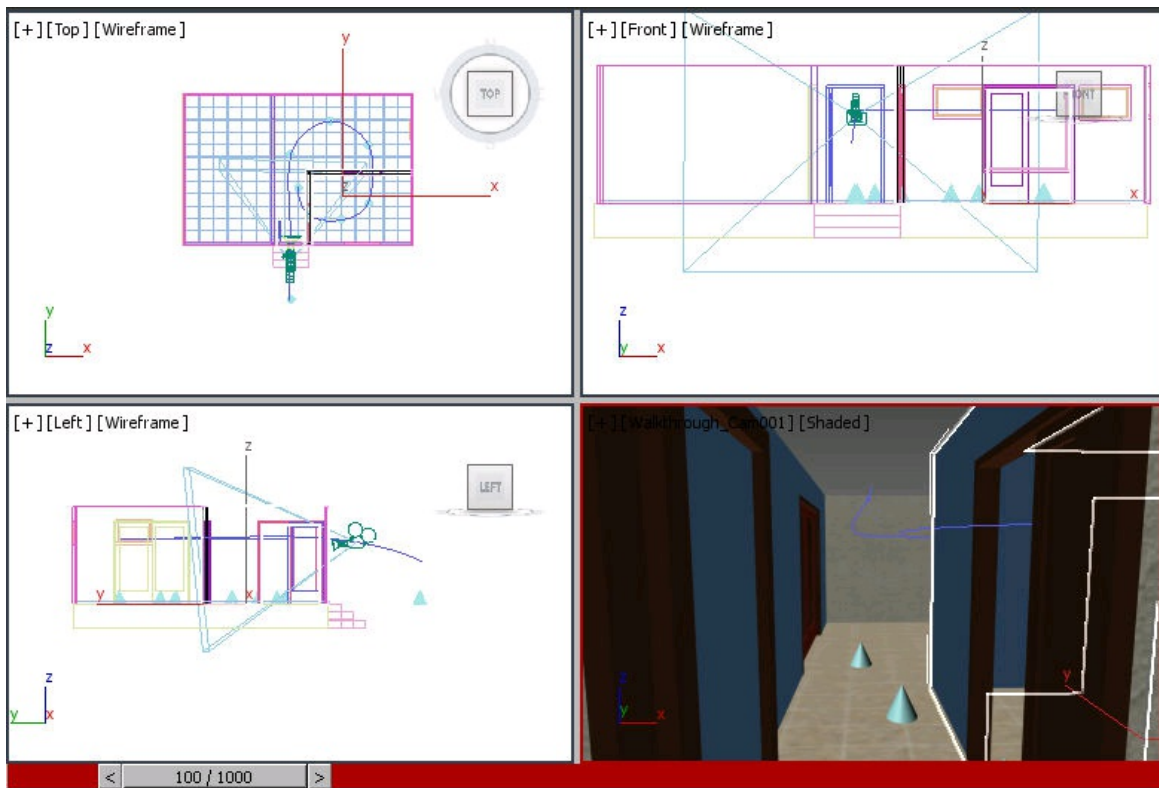

Figure 14-75 The Entrance Door is opened 90 degrees at frame 100
10. In the **Parameters** rollout, set the value **90** in the **Open** spinner; *Entrance Door* is opened 90 degrees at frame 100, as shown Figure 14-75.